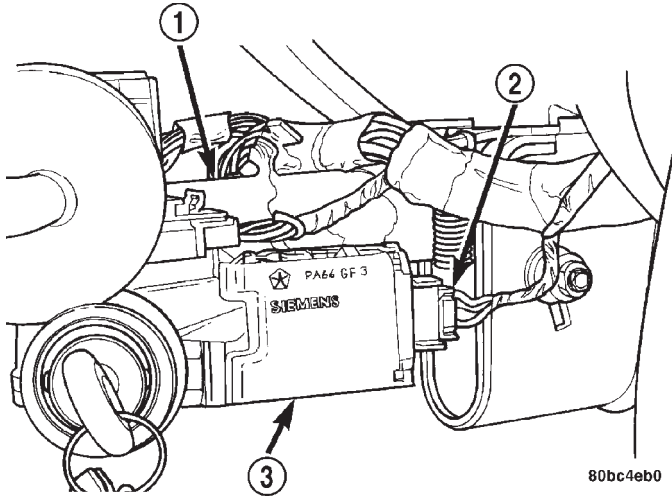
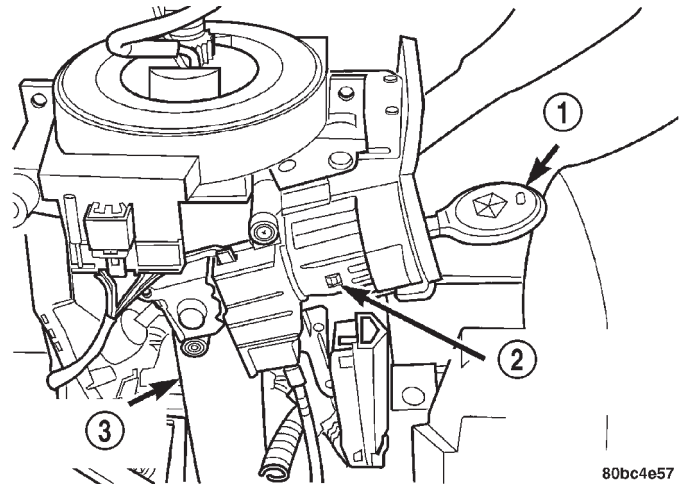

Fig. 15 SKIM Electrical Connector
Fig. 16 Ignition Key Cylinder Retaining Tab
(23) If the vehicle is equipped with a Sentry Key Immobilizer Module (SKIM), disconnect its electrical connector (Fig. 15).
(24) Remove the steering column from the vehicle.
(25) If the steering column is being replaced, perform the following:
- (a) Remove the ignition key cylinder from the steering column. To do this, insert the key and turn the ignition key cylinder to the ON position. Next, depress the retaining tab and remove the Ignition key cylinder by pulling the key and cylinder straight out of the column together (Fig. 16).
(g) Install the ignition key cylinder in the steering column. To do this, first position the key cylinder in the ON position (with the key in it) so the retaining tab can be depressed. Push key cylinder into the column ignition cylinder housing until the retaining tab locks into place (Fig. 16).
(2) Install the steering column into steering column access opening in the lower instrument panel.
(3) If the vehicle is equipped with a SKIM, Connect its wiring harness electrical connector (Fig. 15).